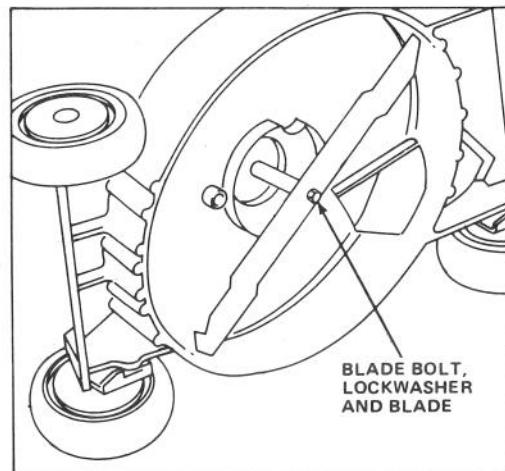

Figure 18
3. Tip mower onto its right side (Fig. 18). Avoid rotating blade. Starting problems may result.
5. **REMOVING BLADE** — Grasp end of blade using a rag or thickly padded glove. Remove blade bolt, lock washer and blade (Fig. 18).